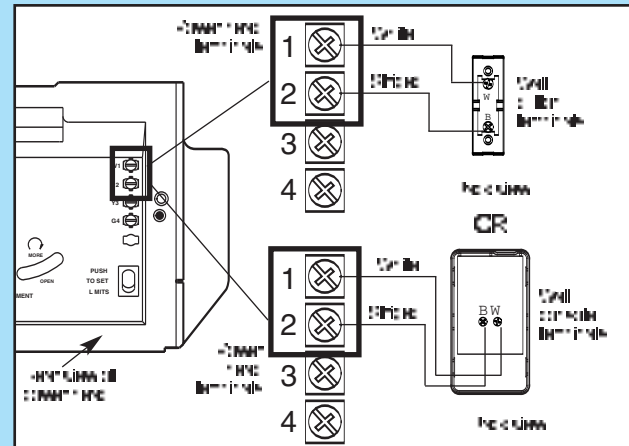

Fig. 4-1a
4. Attach wall control (Fig. 4-1a).